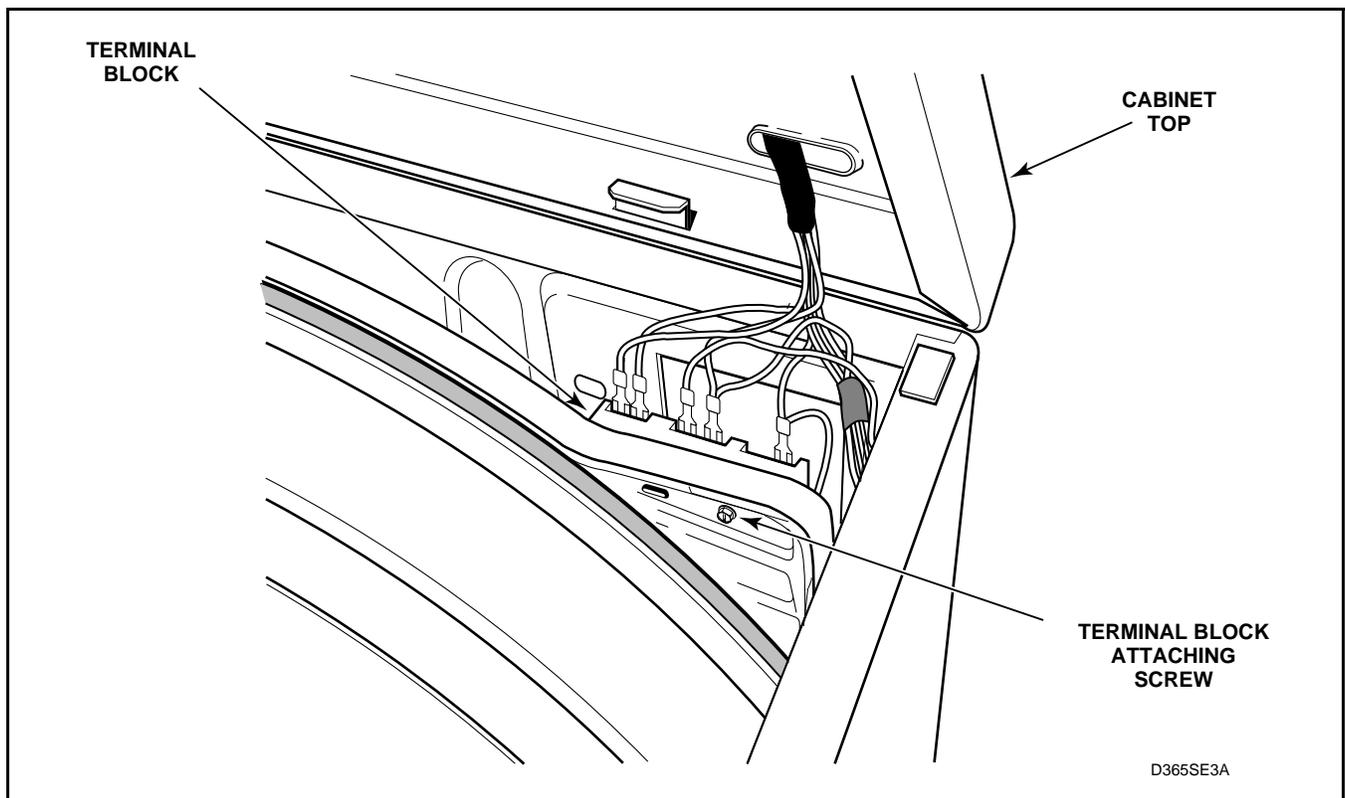

Figure 34
- (3.) Remove screw holding terminal block to rear bulkhead. See *Figure 34*.
- (8.) Remove screw holding terminal block to rear bulkhead. See *Figure 34*.